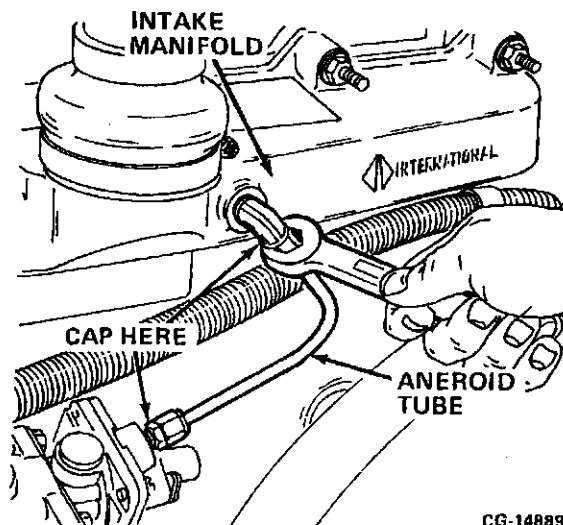

Figure 11.16. Remove Aneroid Tube
4. Remove the aneroid tube as follows: (Refer to Figure 11.16)